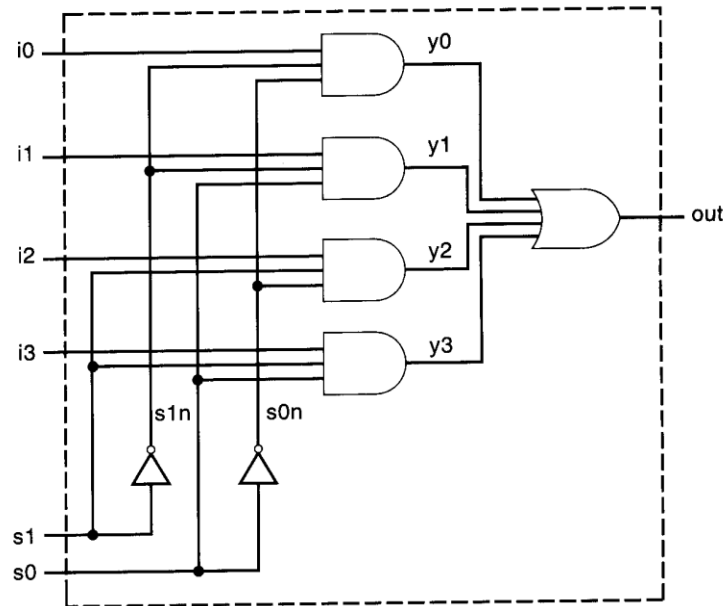

Fig.3.5: Logic Diagram for 4:1 Multiplexer
- The logic diagram for the 4:1 multiplexer is as shown in fig.3.5.